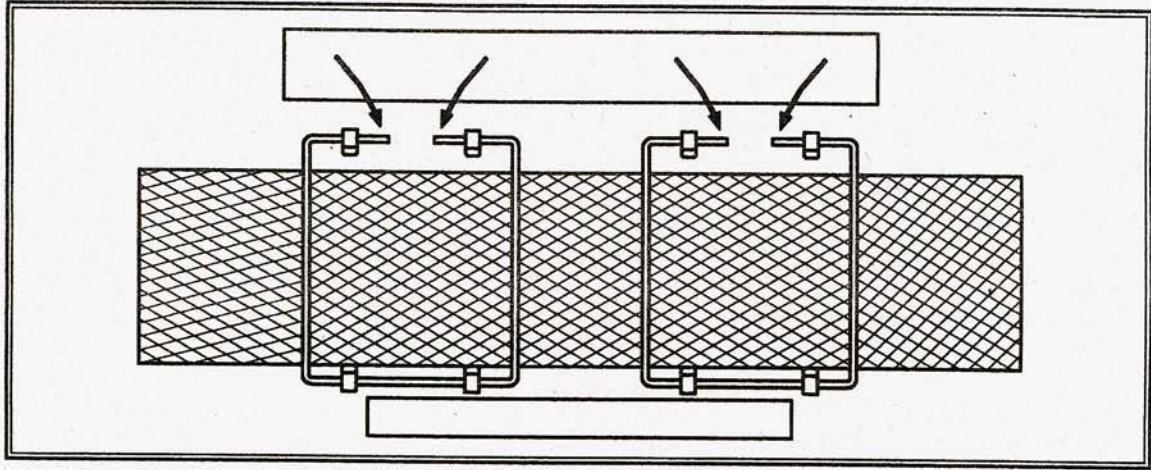

Fig. 5
1. Press the 2 grips one towards the other (Fig. 5) and unhook the grille.
2. Take off the filter retainings (Fig. 5) and after this the grease filter.